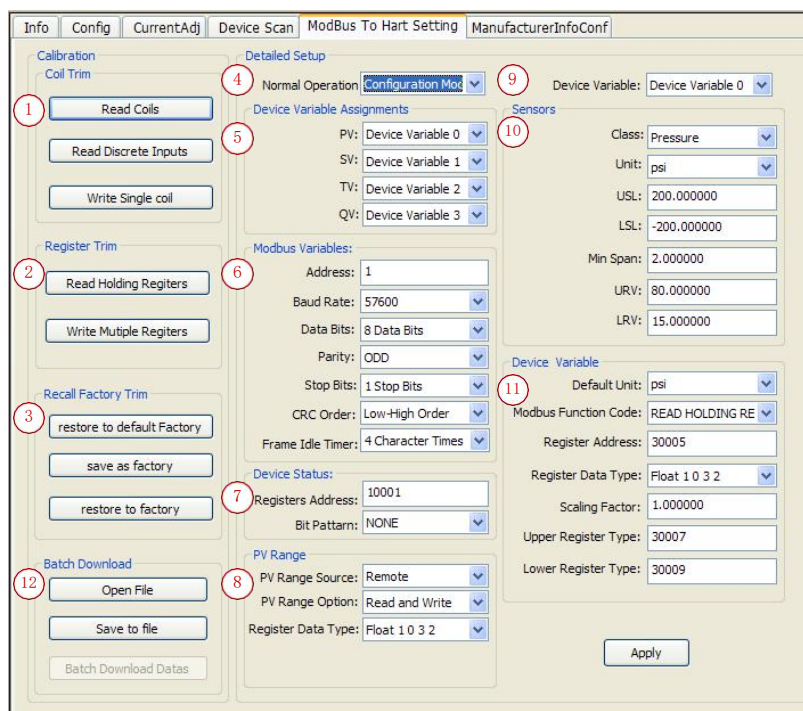

Figure 6 Gateway Configuration
When G0310 MODBUS to HART gateway is online on HartMPT, mouse left-click online devices, then tabcontrol will show related devices. Click “Modbus to HART Setting”, and for the first time, it will take about 1 min to read device information and then it will show gateway configuration function, as shown on figure 6. .
1. Find “detailed setup”->“normal operation”, as shown on figure 6, part 4. There are two operation modes, one is “configuration mode”, and the other is “normal operation”.
1. Choose drop-down box of PV in “Device Variable Assignments”, as shown in Figure 6 part 5;
1. Find “ModbusVariables”->“Address”, as shown in figure6, part 6, address range is 1~255;
1. Choose “ModbusVariables”->“Baud Rate”, as shown in figure 6, part6, choose baud rate value and click Set and Send button.it supports: 1200, 2400, 4800, 9600, 19200, 35700, 38400, 57600.
1. Choose drop-down box of “ModbusVariables”->“Data Bits”, as shown in figure 6, part6, choose supported data bits, 7 or 8.
1. Choose drop-down box of “ModbusVariables”->“Parity”, as shown in figure 6, part6, mode supported : Odd parity check, even parity check and no check;
1. Choose drop-down box of “ModbusVariables”->“Stop bits”, as shown in figure 6, part6, stop bits supported : 1 stop bits and 2 stop bits.
1. Choose drop-down box of “ModbusVariables”->“CRC order”, as shown in figure 6, part6, stop bits supported : Low-high and High-low.
1. Choose drop-down box of “ModbusVariables”->“4.3.7 Frame Idle Timer”, as shown in figure 6, part6, interval time range is: 4~10.
1. Find “device status”->“register address” input box, as shown in Figure 6, part7, address range is 1~65536.
1. Choose drop-down box of “device status”->“Bit Pattern”, as shown in Figure 6, part7. Bit range is 0~16. 0 means no device state feedback.
1. Choose drop-down box of “PV range”->“PV range source”, as shown in figure 6, part8, including local and long-distance.
1. Choose drop-down box of “PV range”->“PV range option”, as shown in figure 6, part8, including read only and read-write.
1. Choose drop-down box of “PV range”->“Register Data Type”, as shown in figure 6, part8, including read only and read-write.
User can set related parameters of device variables, including sensor and corresponding device variables parameter. In default there are 6, namely “device variables: 0”~“device variables: 5”. It is device variables: 0 in default under system initialization, as shown in figure 6, part 9. When device variables change in choice box, system will refresh corresponding “sensor” and “device variable” parameter. After the modification, system will reminder to save data or not if user switch to other device variables without saving. Click “yes” to save it and click “no” means the contrary.
1. Choose drop-down box of “Sensor”, as shown in figure 6, part 10.
1. Choose drop-down box of “Device Variable”, as shown in figure 6, part 11.